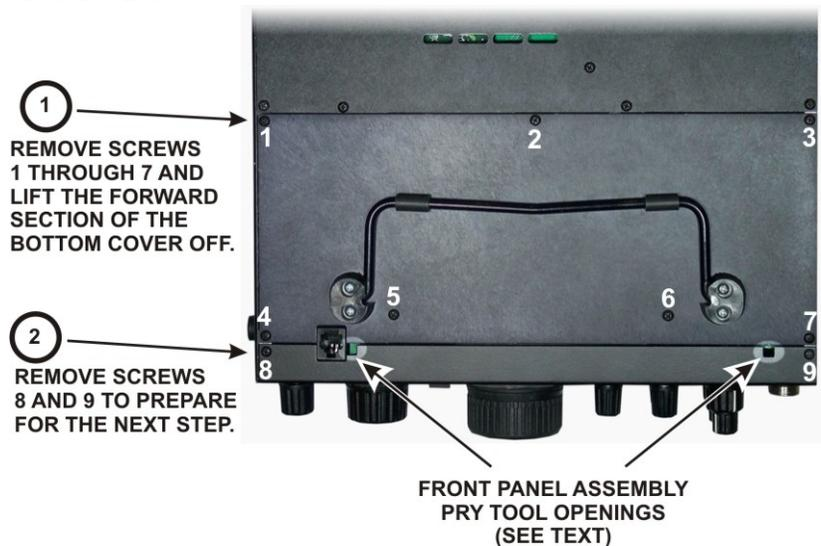

Figure 5. Removing Bottom Cover and Front Panel Assembly Screws.
Refer to Figure 5 and remove screws 1 through 7, then lift the forward section of the bottom cover off. Put it in a safe place to avoid scratches.
Refer to Figure 5 and remove screws 8 and 9 that secure the bottom of the front panel assembly.
- Replace the forward bottom cover using seven 3/16" (4.8 mm) black pan head screws (see Figure 5 on page 7).